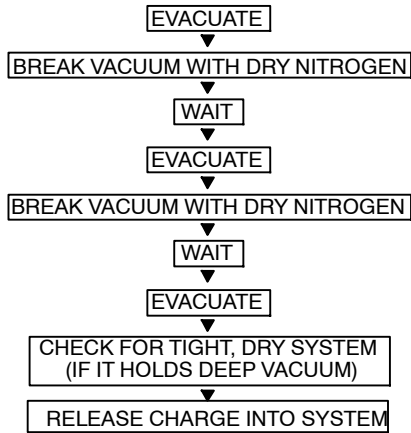

Fig. 29 – Triple Evacuation Method
Refer to Fig. 29 and proceed as follows:
5. Repeat this procedure as indicated in Fig. 29. System will then be free of any contaminants and water vapor.